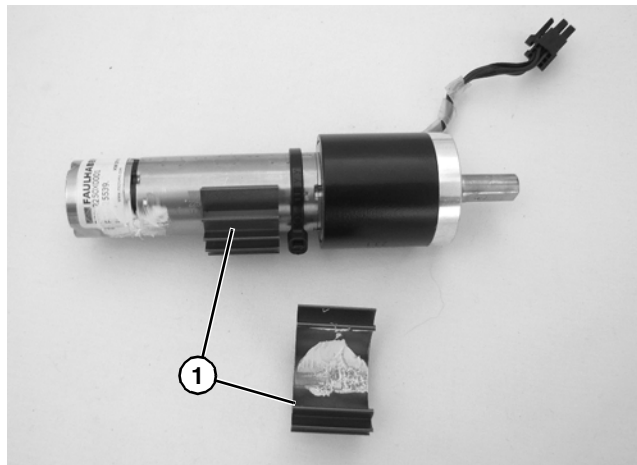

Figure 79
10. Snap off heat sinks (**Figure 79, item 1**).